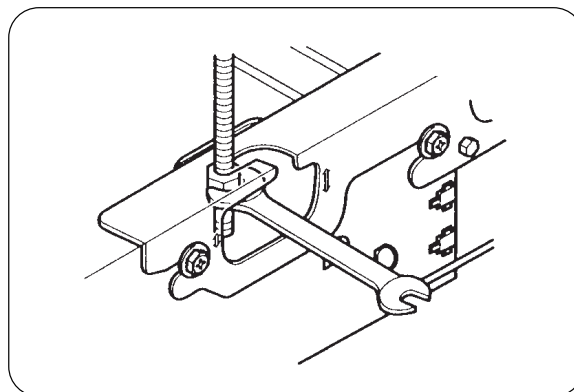

Fig.8
3) Insert the spanner from the hanger bracket opening.(Refer to Fig.8)